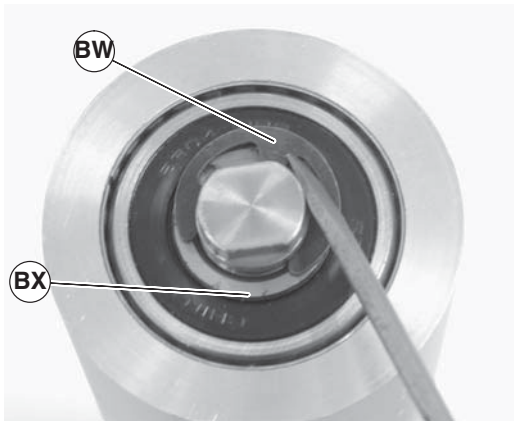

Figure 51
5. Remove the pulley shaft assembly: remove the clip ring (Figure 51, item BW) and washer (BX) from one side of the pulley assembly.